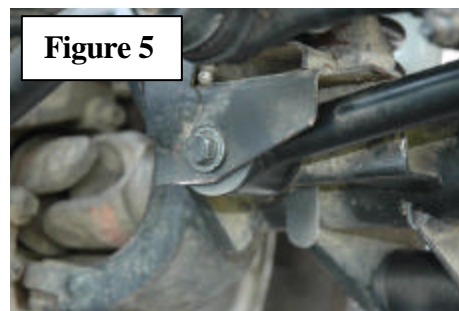

Figure 5
15. Install the Rough Country adjustable track rod in the factory location axle mount using factory hardware. Do not attach the frame end of the new track rod at this time. Installation is done after the vehicle is on the ground and axle is centered. **See Figure 5.**